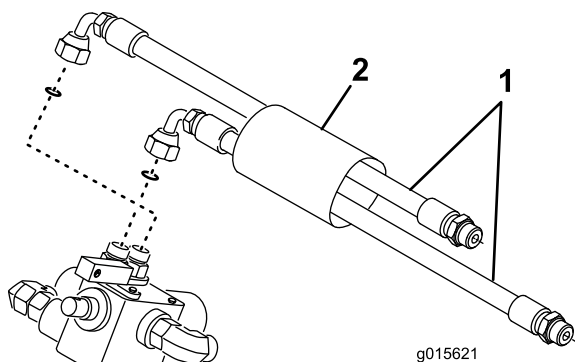

Figure 6
14. Connect the (2) hydraulic hose assemblies to the fittings on the top of the control valve (Figure 6).
1. Hydraulic hose (2)
15. Install the protective sleeve over the hoses (Figure 6). The remainder of the hose installation will be completed after the hopper frame is installed.